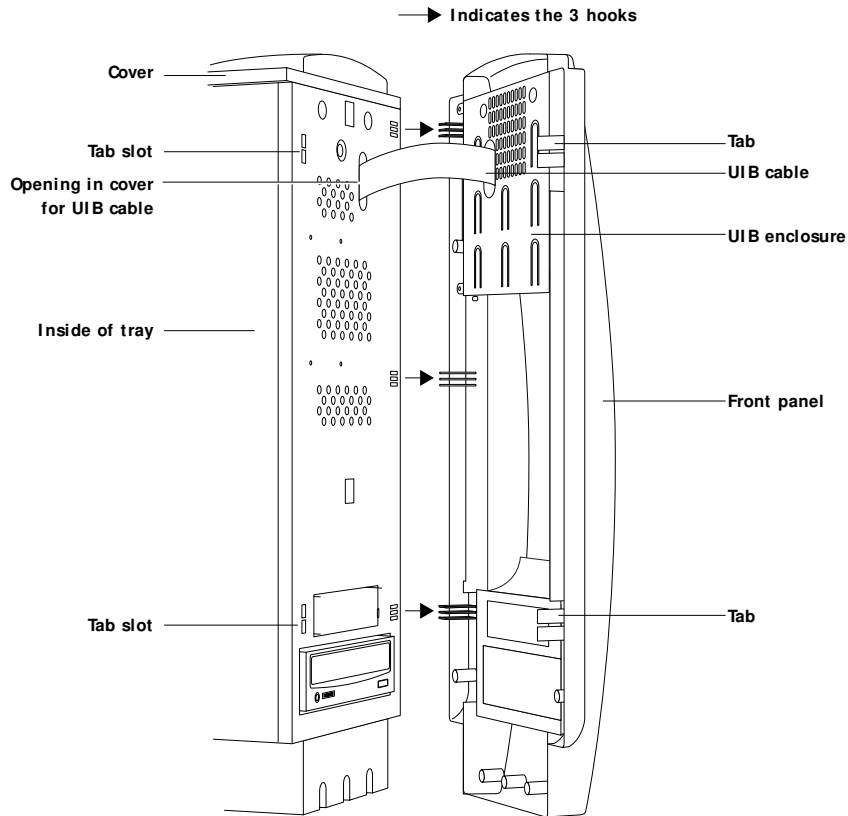

FIGURE 4-4 Removing the front panel
4. **Angle the front panel so that the three hooks on the edge of the front panel line up with the cutouts on the front of the cover (see Figure 4-4).**